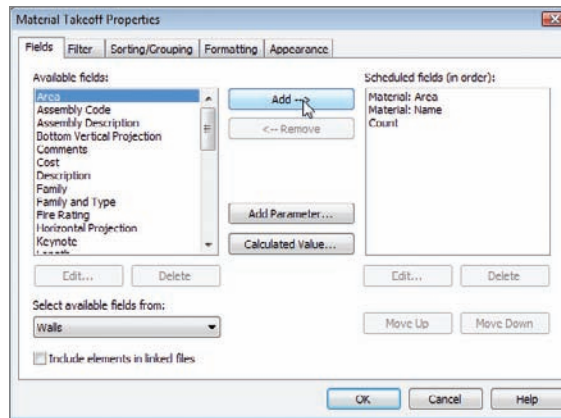

FIGURE 11.27 Adding the materials
4. In the next dialog, add the following fields (see Figure 11.27).